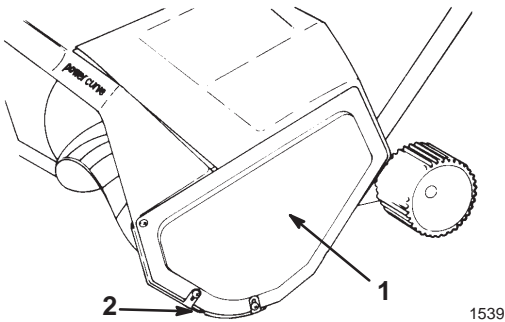
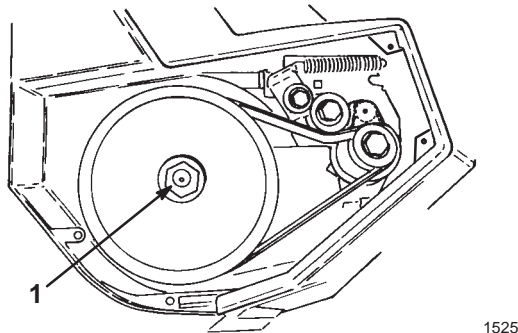

Figure 15
Figure 16
Note: If you cannot remove the rotor shaft by holding the rotor, remove the left side cover and the skid (Fig. 15). Hold the hex nut with a 7/8-in. wrench while unscrewing the rotor shaft (Fig. 16).
1. Remove the three screws that secure the left side plate to the snowthrower frame (Fig. 15). Remove the side plate and the skid.
1. Remove the screws that secure the left side plate and the skid to the snowthrower frame (Fig. 15). Remove the side plate and the skid.